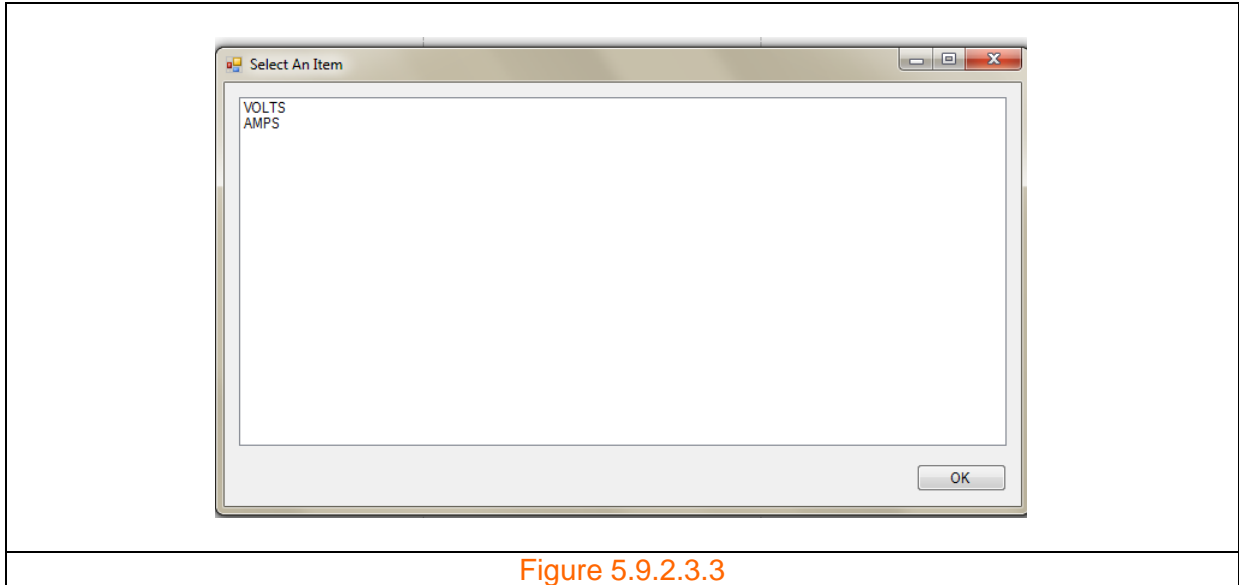

Figure 5.9.2.3.3
Step 3: Click on 'VOLTS'. An input box appears as shown in figure 5.9.2.3.4. The predefined level in the input box is the value that the minimum is currently set to. The user can alter this level.
Step 4: In this case, set the level to 240 and click 'OK'. An input box appears as shown in figure 5.9.2.3.5. The predefined level in the input box is the value that the maximum is currently set to. The user can alter this level.